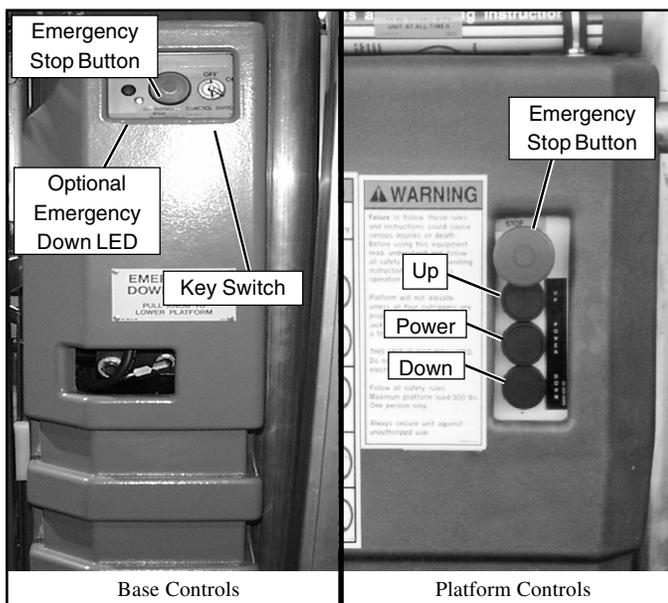

Figure 2: Controls
3. Turn Key to **ON**, Key Switch is located on the left side of the mast (Figure 2).
4. Pull out on Lower Emergency Stop Button, located on the left side of the mast (Figure 2), to turn switch ON. In the event of an emergency push the button in to cut power to all controls.
8. Pull out on Emergency Stop Button, located on platform control panel (Figure 2). In the event of an emergency push the button in to cut power to all controls.
9. Push both the middle and top buttons (**POWER** and **UP**), on the Control Box (Figure 2), at the same time to elevate the platform. Release the buttons to stop.